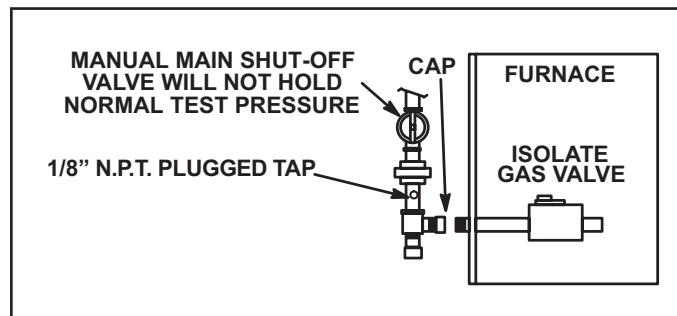

Figure 55
- 5 - A 1/8" N.P.T. plugged tap or pressure post is located on the gas valve to facilitate test gauge connection. See Figure 55.
When testing pressure of gas lines, gas valve must be disconnected and isolated. See Figure 55. Gas valves can be damaged if subjected to pressures greater than 1/2 psig (3.48 kPa).